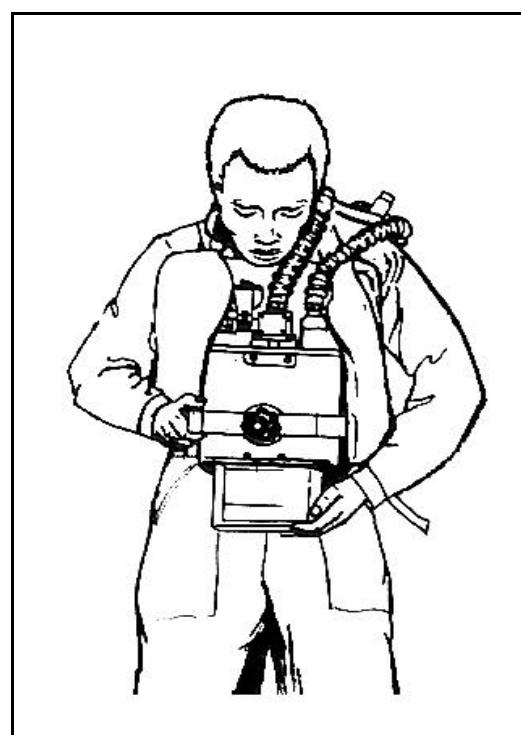

Figure 11-44. Putting on the OBA, Step 6
- **Step 6.** Swing the canister retaining bail forward and hold it with one hand. Now insert the canister in the holder, with the label facing outward, away from your body (Figure 11-44, page 11-59).